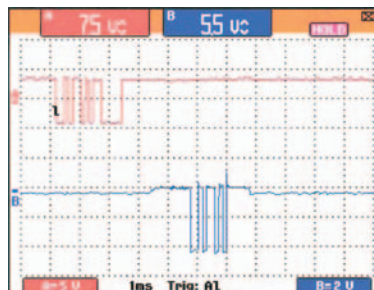

Figure 4. Bad Line 38B low + Game Voltage.
Figure 4 shows the 196C ScopeMeter screen with both the game data and system polling signal on display. The lower trace indicates a voltage drop of approximately 2 volts on channel (B) of the ScopeMeter test tool. This could indicate a possible bad GMU. The voltage drop could eventually pull down or short out the line, causing it to go down.